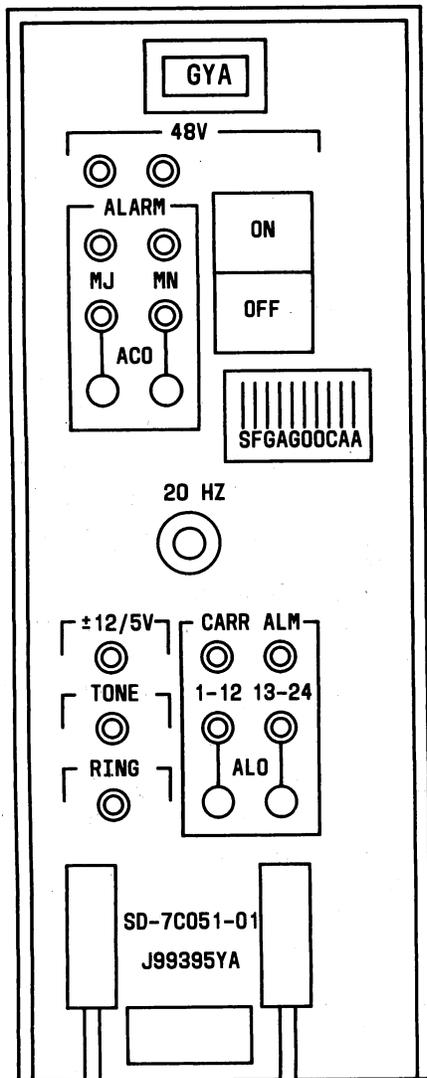

Fig. 1—GYA Faceplate
**2.02** The GYA unit provides a two-level urgency alarm system with the associated indicators and controls located on the faceplate (see Fig. 1). The alarm indicators exhibit the following conditions: